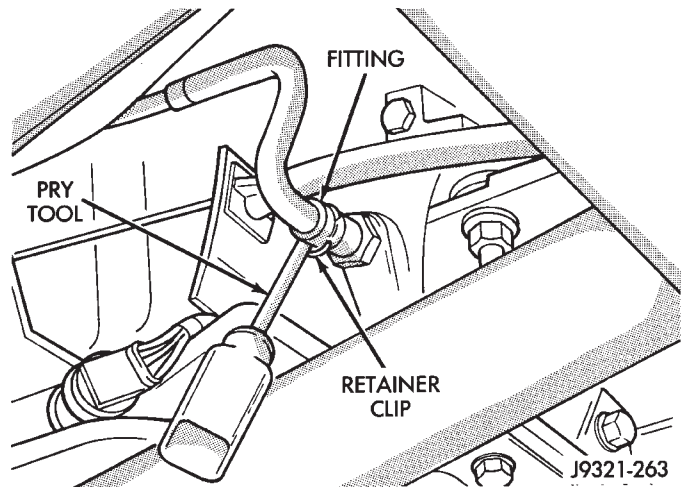

Fig. 19 Removing Retainer Clips From Quick Disconnect Fittings
- (1) If cooler lines are to be disconnected at main cooler (in radiator), remove splash shield under radiator for access to fittings.
- (2) Pry wire retainer clips off quick disconnect fittings with small screwdriver (Fig. 19). **Discard clips as they are NOT reusable parts.**
- (3) Pull cooler line out of fitting.
- (4) Remove and retain plastic insert from each fitting.